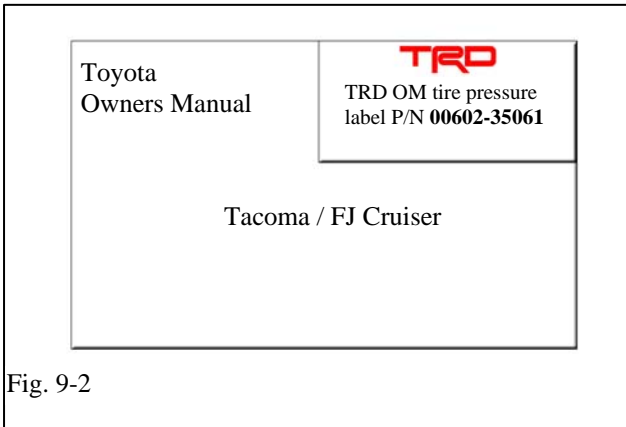

Fig. 9-2
- (c) Install Owner's Manual Label (MDC P/N **00602-35061**) onto upper right front cover of owner's manual. (Fig. 9-2) NOTE: Be sure NOT to cover any existing text or information. Shift label down as needed so as not to cover any pictures or text.